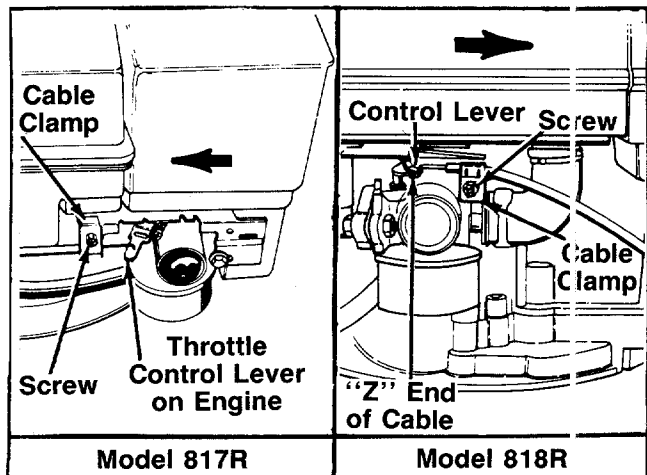

FIGURE 6B.—Models 817R and 818R
2. The throttle control cable is attached to the upper handle. Route the throttle control cable under the lower handle and to the outside of the handle wheel bracket assembly and height adjustment lever. Hook the "Z" end of the throttle control cable into the control lever on the engine as shown in figure 6B.
3. Loosen (do not remove) the screw on the cable clamp shown in figure 6B. Slip the control casing under the clamp (cable must move freely beneath the clamp).